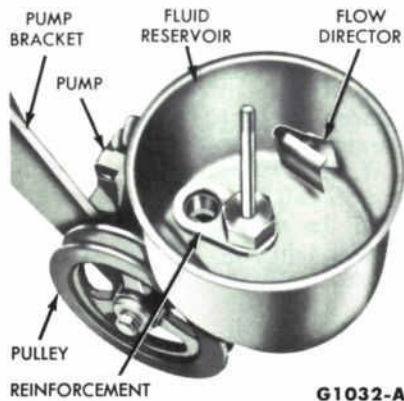

FIG. 24—Fluid Reservoir
1. Drain as much of the remaining fluid from the pump and reservoir as is possible, and then clamp the pump adjusting bracket in a vise. Remove the retaining nut and lift the cover off the reservoir. Remove the reservoir retaining nut and the reinforcement from inside the reservoir (Fig. 24) and lift the reservoir off the pump.